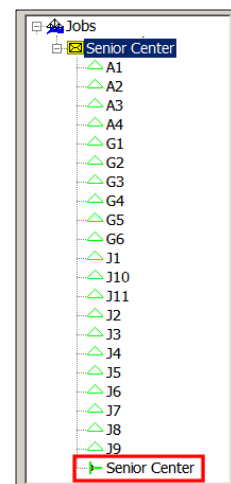

Figure 157: LDG file imported from GS Plan.
3. From within the job folder, double click on the LDG file associated with that job. Note that the name of this file will be the same as that of the job folder, and the icon associated with the file will look like this  (See the *Senior Center* file in the job shown in Figure 157 at right.)